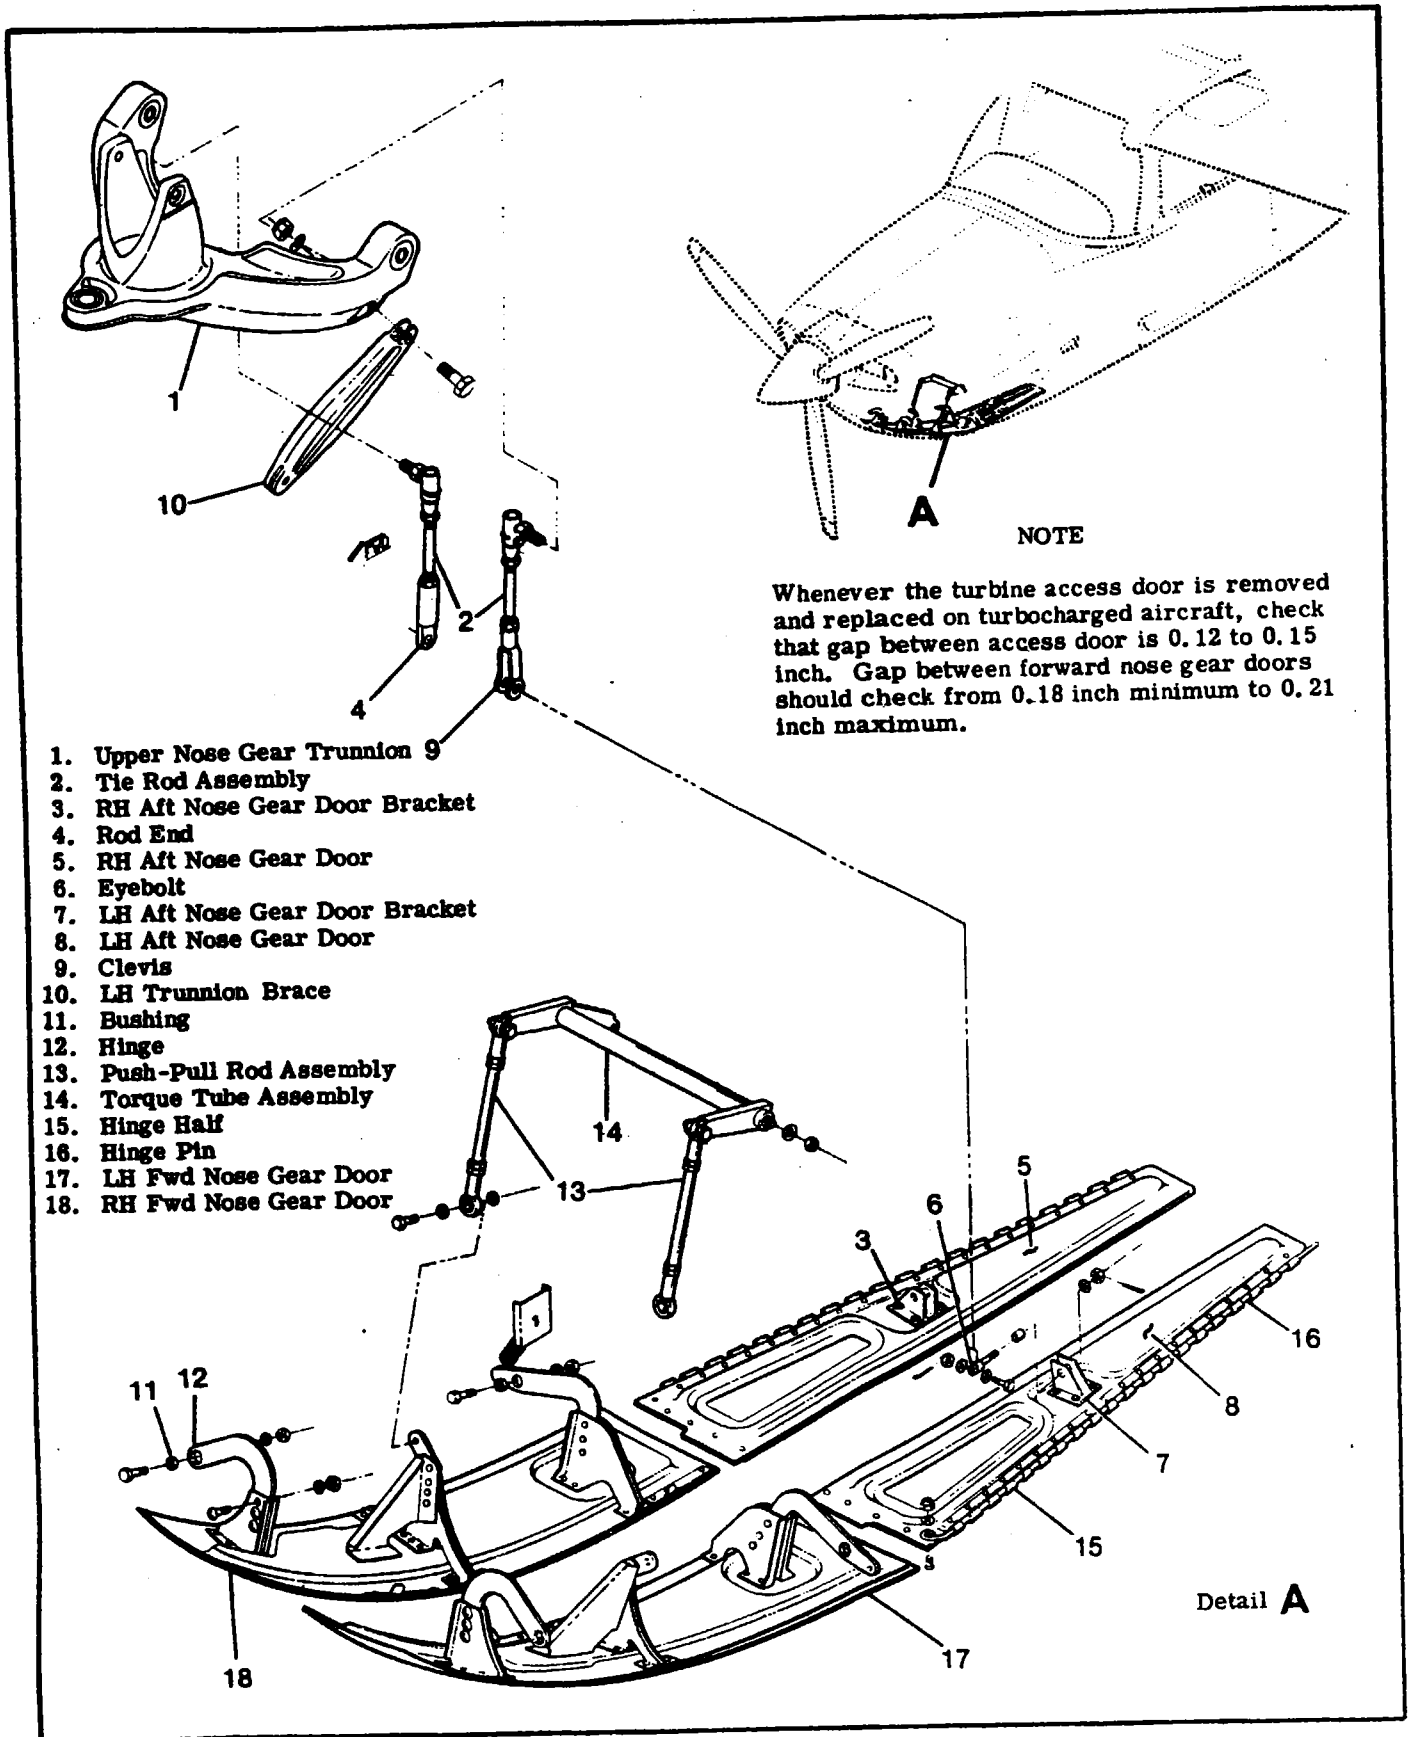

Figure 5-21. Nose Gear Door System
5-118. NOSE GEAR DOOR SYSTEM. (Refer to figure 5-21.)
5-121. REMOVAL AND INSTALLATION OF NOSE WHEEL DOORS. (Refer to figure 5-21.)
5-122. REMOVAL AND INSTALLATION OF NOSE WHEEL DOOR MECHANISM. (Refer to figure 5-21.)
d. Remove nut, washer and bolt attaching actuator to its mounting bracket in nose wheel well. (See "notes" in figure 5-21.)
5-123. REMOVAL AND INSTALLATION OF NOSE GEAR STRUT DOORS. (Refer to figure 5-21.)
e. Observe note in figure 5-21.
Install right-hand tie rod on outboard side of eyebolt only, when connecting nose gear strut doors. Left-hand tie rod should be installed as shown in figure 5-21.